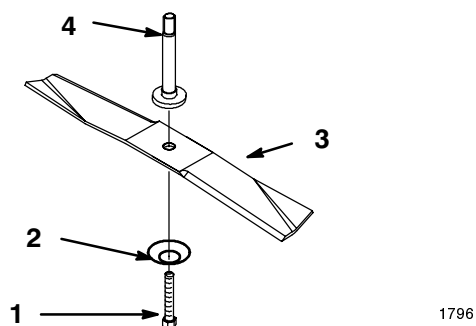

Figure 35
3. Remove the bolt, curved washer, and blade (Fig. 35). A block of wood may be wedged between the blade and the mower to lock the blade when you are removing the bolt.
1. Install the blade, curved washer (cupped side toward blade), and the blade bolt (Fig. 35).